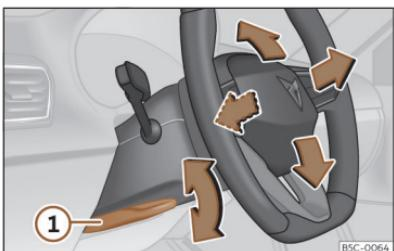

Fig. 94 Lever in the lower left side of the steering column.
- Pull lever >>> **Fig. 94 ①** down, move the steering wheel to the desired position and lift the lever back up until it locks.
- After adjusting the steering column, push lever >>> **Fig. 94 ①** firmly upwards so that the steering wheel does not accidentally change position while driving.